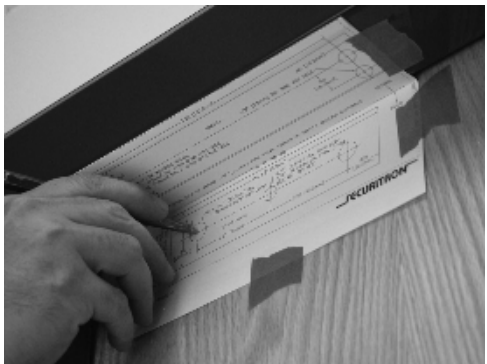

Figure 5. Marking Drill Hole Locations
3. **WHEN** the template is attached, **THEN MARK** the location of all holes to be drilled using a center punch (see Figure 5, "Marking Drill Hole Locations").